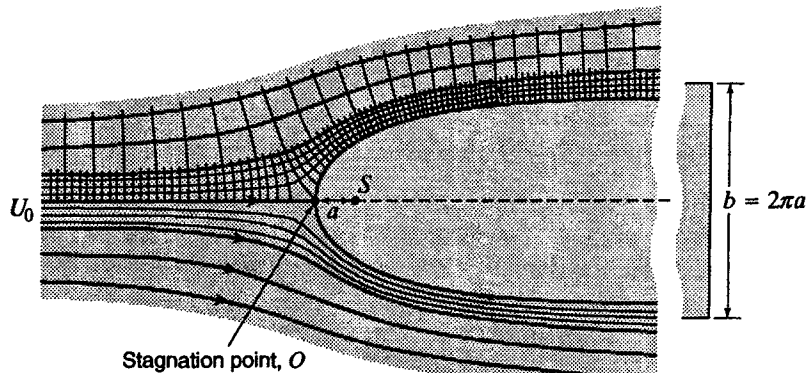

Figure 4.12
5.9 If the body shown in Fig. 4.12 is not two-dimensional but is a solid of revolution about a horizontal axis, the flow will be three-dimensional and the streamlines will be differently spaced. Also, the distance between the stagnation point and the "source" will be $d/4$, where d is the diameter at a great distance from the stagnation point. At points very near the surface at radii from the source making angles with the axis of 0, 60, 120, and 150°, the velocities are 0, 14.0, 21.3, and 19.8 fps respectively when the velocity of the undisturbed field is 19 fps. If the body is a blimp and the atmospheric pressure in the undisturbed field is 14 psia, what will be the pressure at these points, for an air temperature of 53.9°F?